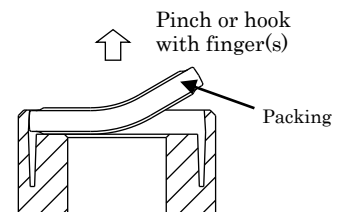
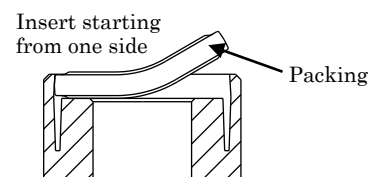

Fig. 7. Remove packing
Fig. 8. Insert packing
- (2) Hook the packing with fingers to pull it out as shown in Fig. 7.
- (1) Start inserting the packing from one side of the edge as shown in Fig. 7 and press it down around the edge until it sits tightly on the nozzle tip (Fig. 8).